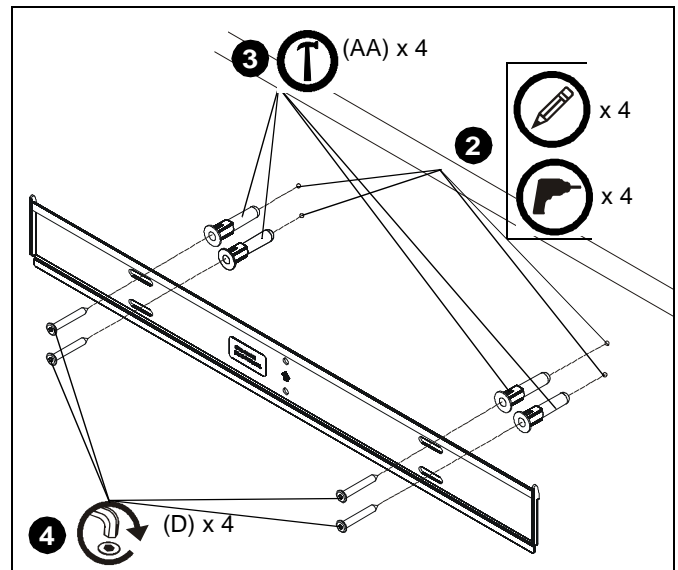

Figure 3
2. Using wall plate as a template, mark and then drill four 5/16" diameter pilot holes through mounting surface. Use level to make sure wall plate is perfectly horizontal. Holes must be drilled at least 2-1/4" deep. (See Figure 3)
3. Install four anchors (AA) into pilot holes drilled in Step 2. Use a hammer to tap anchors into holes. (See Figure 3)
4. Install four connector screws (D) through wall plate holes and into anchors. (See Figure 3)
5. Install four button head cap screws (E-Q) through required washers (R) and shoulder washers (S or T), interface brackets (B), spacers (U or V) and into holes on back of display. (See Figure 3)
NOTE: Make sure locking flags are in the open position before attaching display to wall plate. Flags are shown in the open position in Figure 3.